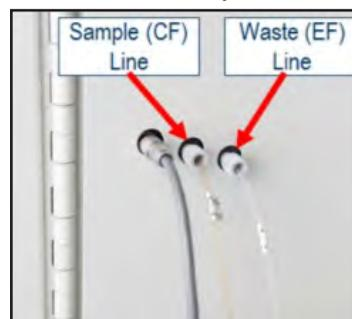
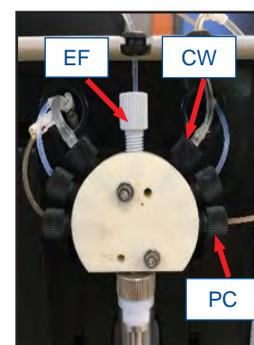
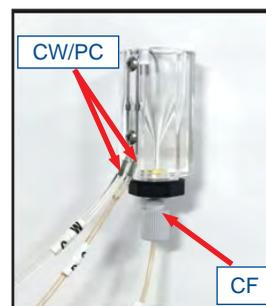

Figure 5.3 ESM Sample and Waste Tubing installed on FLEX2 cover
Figure 5.4 ESM Waste, Cup Wash, and Performance Check Tubing connections to ESM syringe pump
Figure 5.5 ESM Sample, Cup Wash, and Performance check tubing connections to Sample Cup for ambr® 15/250, PN 59975
2. **Replace the Sample (CF) Tubing Line:** Carefully disconnect the Sample (CF) line from the right-hand cover of the FLEX2 (Fig. 5.3) by turning the fitting counterclockwise until it releases. Disconnect the opposite end of the line from the base of the ESM sample cup (Fig. 5.5-5.6) in the same way. Discard the old tubing and secure the new CF line to the FLEX2 cover and sample cup by turning the fittings clockwise until finger-tight.
3. **Replace the Waste (EF) Tubing Line:** Carefully disconnect the Waste (EF) line from the right-hand cover of the FLEX2 (Fig. 5.3) by turning the fitting counterclockwise until it releases. Disconnect the other end of the tubing from the ESM syringe pump (Fig. 5.4) in the same way. Discard the old tubing and secure the new EF line to the FLEX2 cover and syringe pump by turning the fittings clockwise until finger-tight.
4. **Replace the Cup Wash (CW) Line:** Carefully disconnect the CW line from the ESM syringe pump (Fig. 5.4) by turning the fitting counterclockwise until it releases. Carefully pull the other end of the CW line off the metal port on the sample cup to which it is attached (Fig. 5.5-5.6). Discard the old tubing. Secure the fitting at one end of the new CW line to the syringe pump by turning it clockwise until finger tight. Slide the free end of the new CW tubing securely onto either port on the sample cup
5. **Replace the Performance Check (PC) Line:** Carefully disconnect the PC line from the ESM syringe pump (Fig. 5.4) by turning the fitting counterclockwise until it releases. Carefully pull the other end of the PC line off the metal port on the sample cup to which it is attached (Fig. 5.5). Discard the old tubing. Secure the fitting at one end of the new PC line to the syringe pump by turning it clockwise until finger tight. Slide the free end of the new PC tubing securely onto either port on the sample cup.
**NOTE:** *The connection of the Cup Wash (CW) and Performance Check (PC) tubing lines to the metal ports on the sample cup is arbitrary—either line can be connected to either port.*